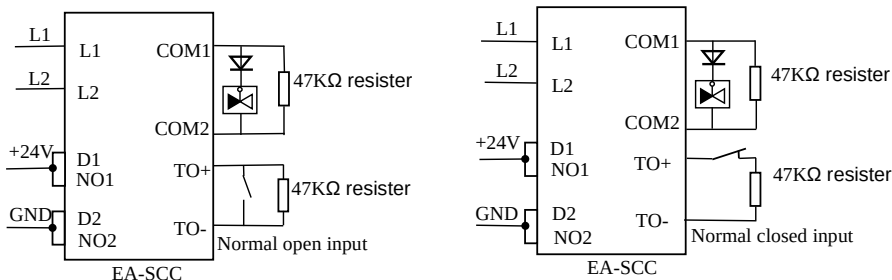

Fig 3. Wiring method of Voltage Output
- 3) The ends of input and output circuit should correctly use a 47KΩ resistor (shown in Fig. 3) , so that the I/O module can identify the short-circuit fault or open-circuit fault of the input and the output circuit.
respectively, and a 1N4007 diode should be in series between COM1 and COM2 then connected with the controlled equipment. The details of the wiring method is shown in Fig. 3.
3. Conduct correct wiring as instructed in Fig.3 or Fig.4.